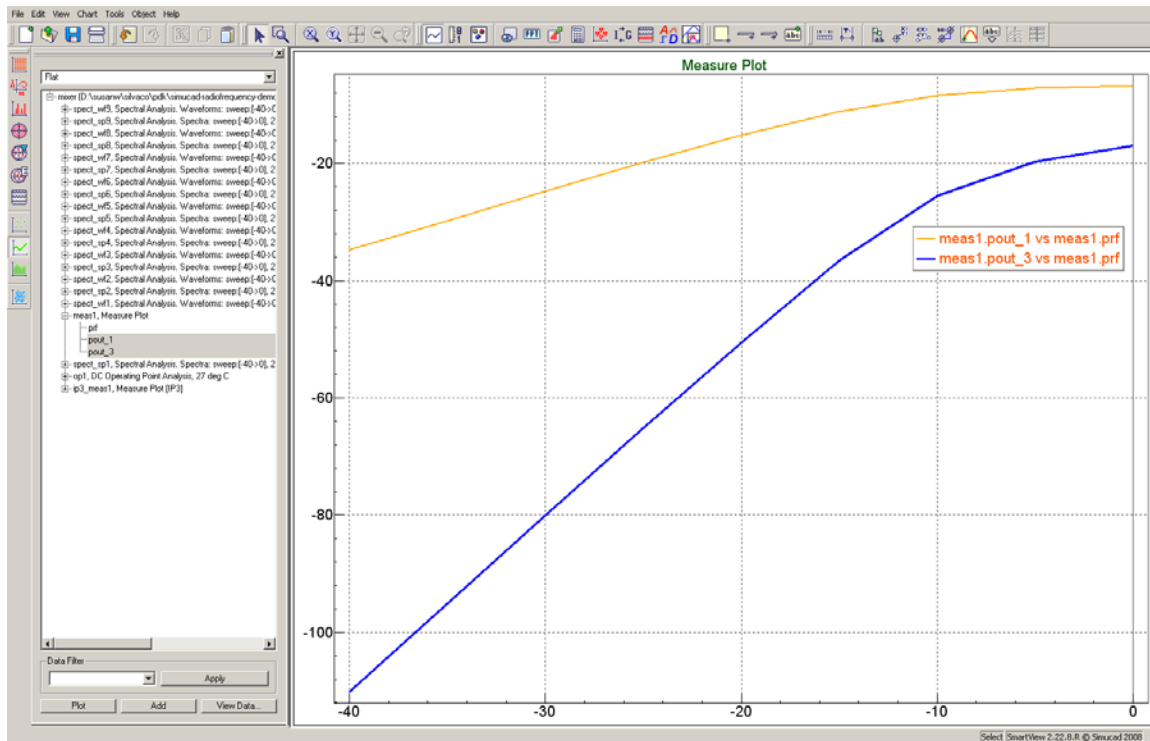

Figure 14: IP3 Simulation Plot
2.12.1: Open plot meas1, then select both vectors “pout_1” and “pout_3”, and click **Plot**. The IP3 simulation plot is shown in Figure 14.